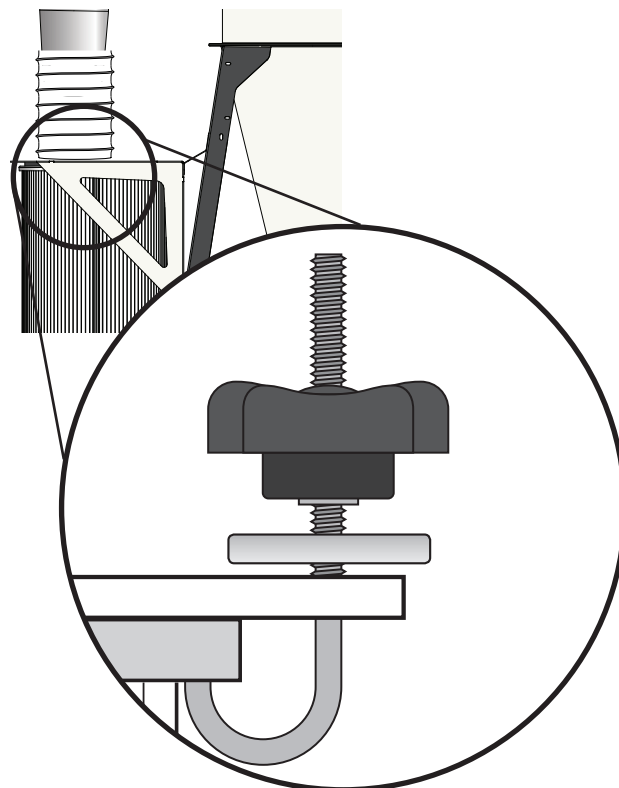

FIG. 14
Attach each Filter (P) to the Dual Filter Plate (N) with four J-Bolts (O4), four Flat Washers (O3) and four Thumb Nuts (O2) as shown in [FIG. 14].